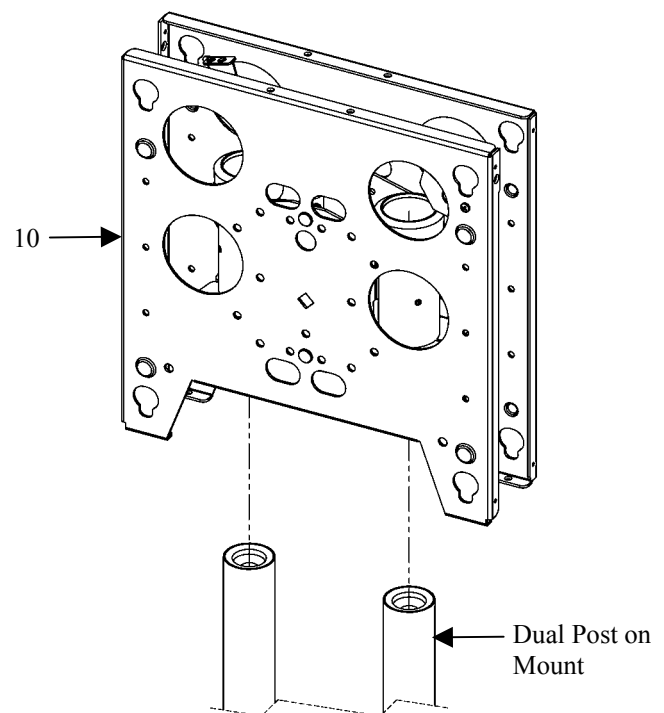

Figure 3. Mount the PAC-141
1. Place the PAC-141 (10) over the dual post on the mount as shown in Figure 3.
3. Tighten the four 5/16-18 socket head set screws (20).